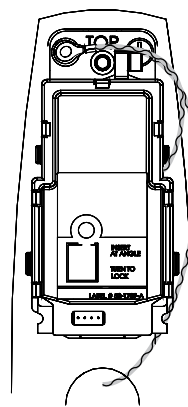

Figure 23
5. Position green/yellow reader harness earth ground on top of ground ring and thread both with one (1) 8-32 x 3/8" Phillips flat head undercut combo screw. (Figure 23)